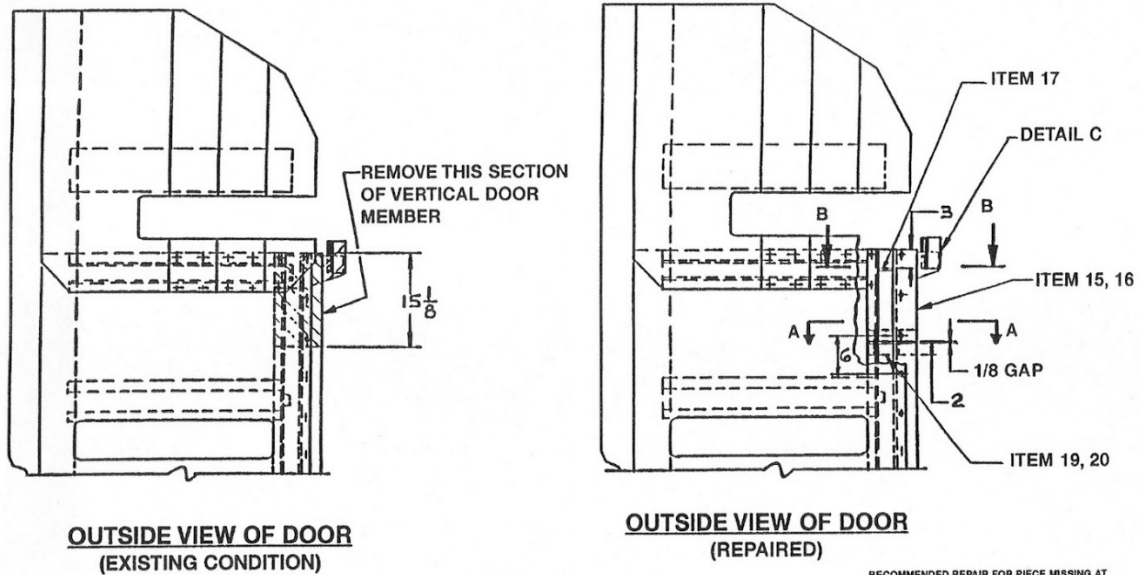

Figure 20
2. Cut off the top 15¹/₈" of the outer vertical door member. (Refer to Figure 20, Outside View of Door – Existing Condition.)
3. Tack weld a new piece (Figure 20, Item 15 or 16) after adding new gusset (Item 17), leaving ¹/₈" gap between the two pieces for a 100% penetration weld. (Hold the hole-spacing on the outer row of Huck holes to 6" on center).